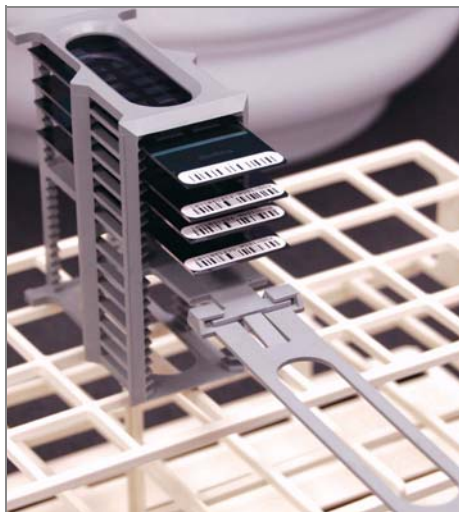

Figure 68 Staining Rack in Correct Orientation
18. Remove the staining rack in one smooth, rapid motion and place it directly on prepared tube rack, making sure the barcodes face **up** and the locking arms and tab face **down** (Figure 68).